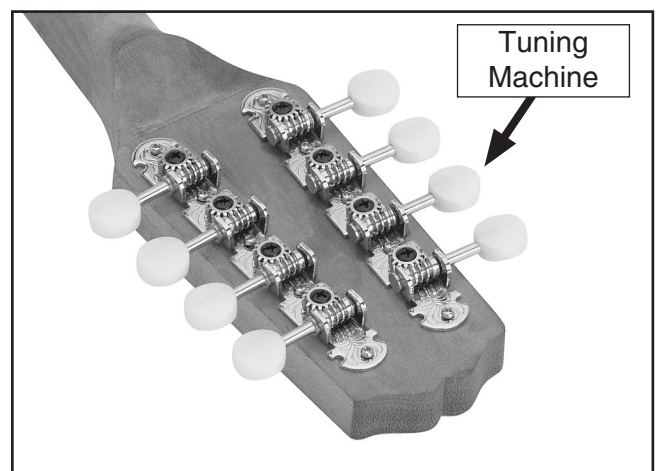

Figure 36. Tuning machines installed in the peghead.
4. Attach both tuning machines to the peghead with the #1 x $\frac{3}{8}$ " chrome screws (see **Figure 36**).